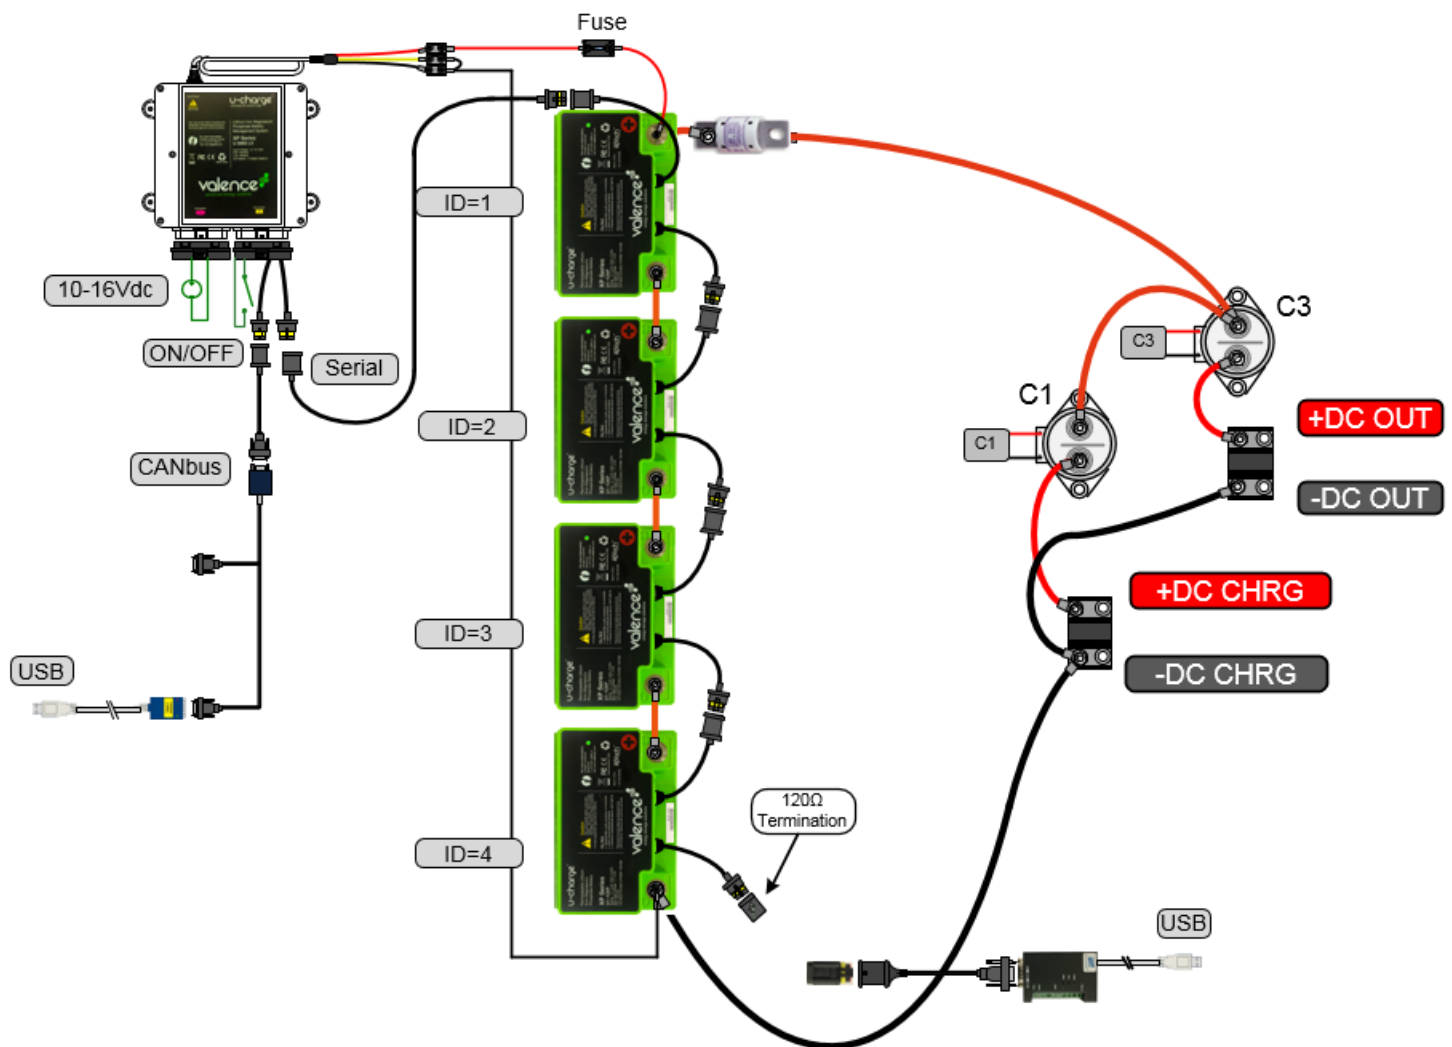

Figure 6-2: Series Configuration
Series configurations allow a higher voltage while the capacity remains the same. The configuration in this example is known as 4S1P, shown below in Figure 6-2.
6. Install a properly sized in-line fuse in the center or at the end of the series string as shown in Figure 6-2. Install flexible insulated copper interconnect cables of the appropriate gauge for all connections to the battery modules. The same gauge cable should be used for all of the series string connections. Depending on the physical layout of the battery string, it may be better to make the final power connection at the mid-pack connection, at the end of step 7 below.
7. Before making connections to the contactors, use a meter to ensure the contacts are open. Attach an interconnect cable from one side of the contactor +DC Out, then connect the positive cable from the device/equipment to other side of the contactor as shown in Figure 6-2.
8. Attach the negative cable from the device/equipment to the negative terminal of the lowest potential battery module, -DC Out as shown in Figure 6-2.